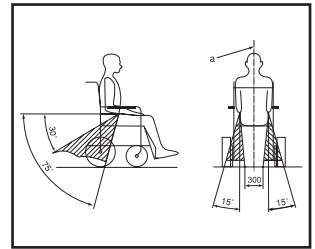

Figure 4
Side equipped with armrest (see fig. 4)
- The lap belt must be positioned low across the user's waist (see figure 4). The angle between the belt and the floor must be between 30° and 75° (a bigger angle is better).